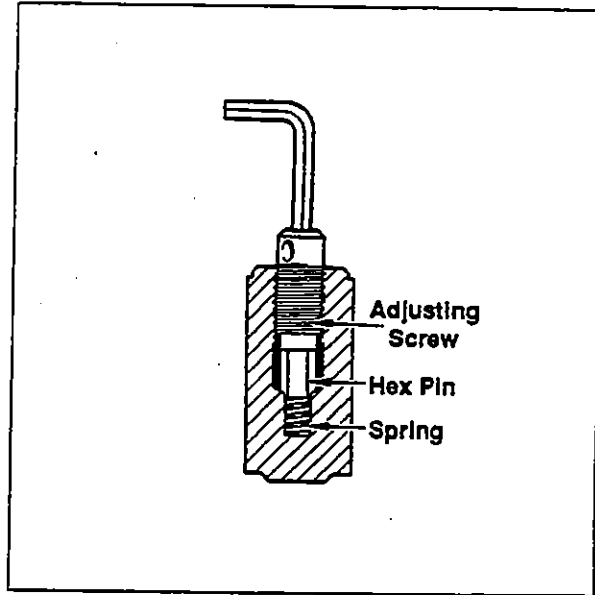

Fig. 1.5.13
- C. Push down on the hex key wrench. This unlocks the adjusting screw from the hex pin (see Figs. 1.5.13 and 1.5.14).